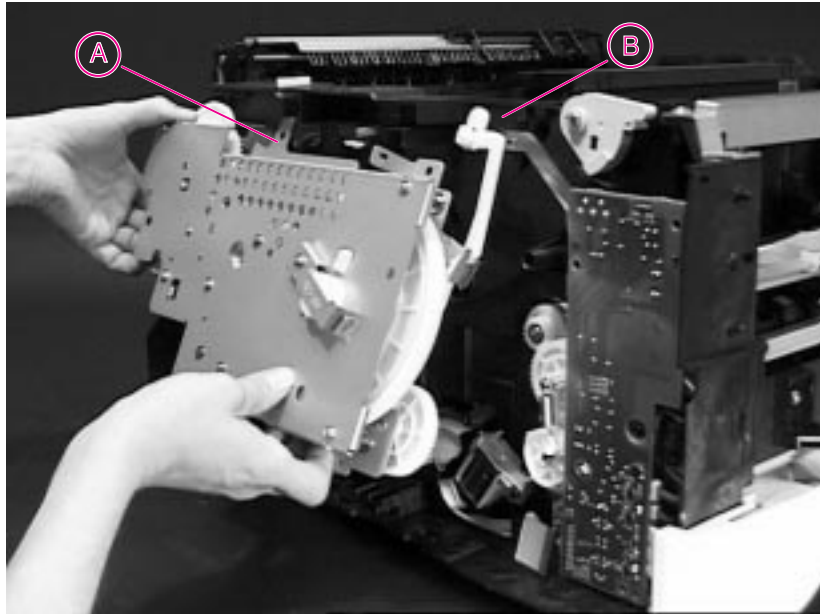

Figure 6-28 Removing the Main Gear Assembly
- 4 Rotate the bottom of the assembly out (Figure 6-28), and then lower it to release the Locating Tab (A) and remove the Main Gear Assembly.